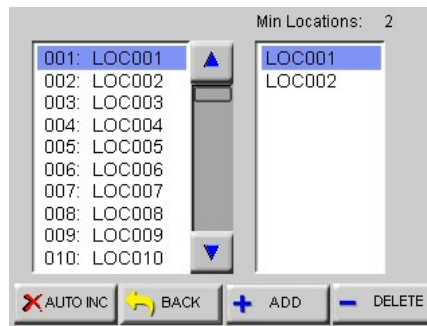

Figure 5-77 Reports Location Set Up Screen
- Press BACK then LOC to select, add or delete locations or enable AUTO INC as shown in Figure 5-77.